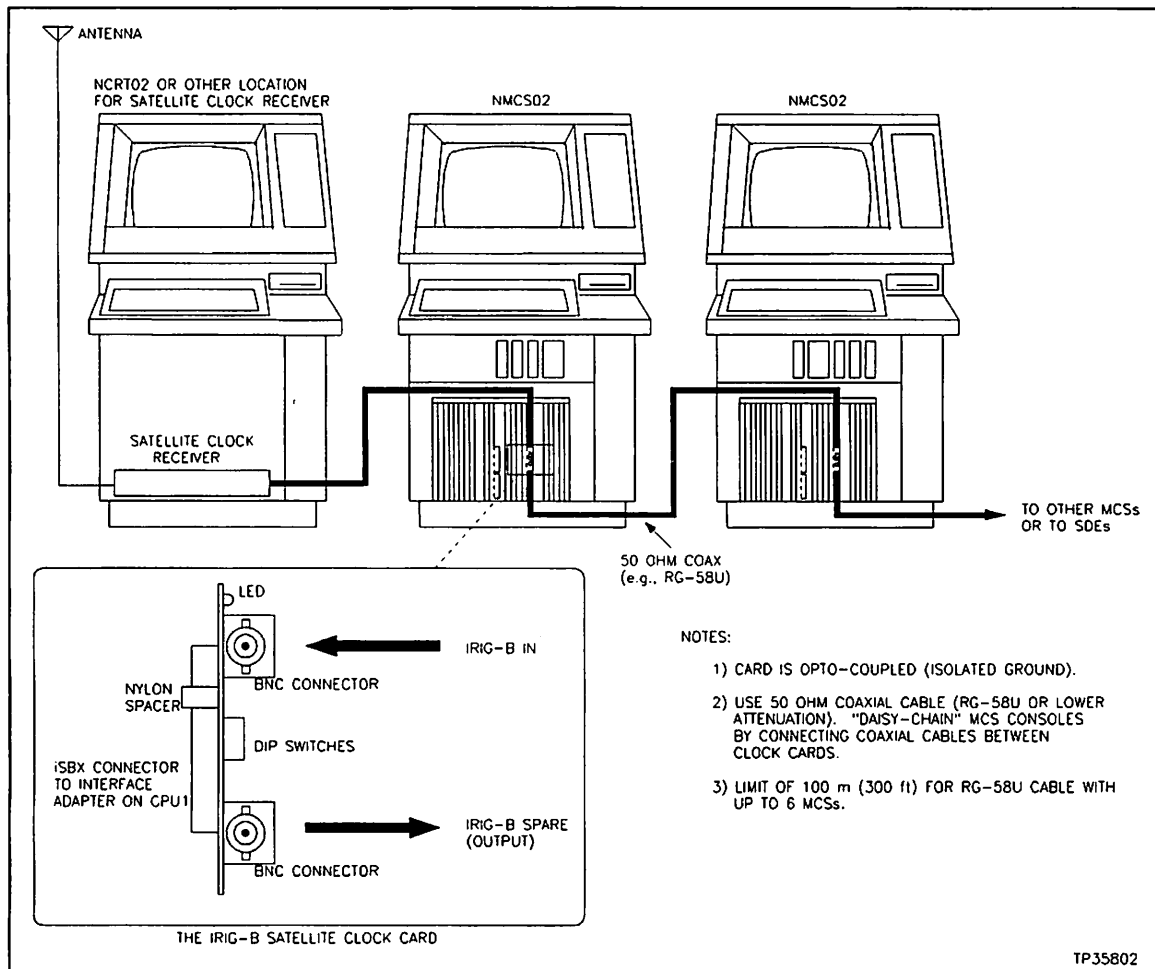

Figure 4-40. Daisy Chained IRIG-B Signal
10. Connect the clock cards. The clock card has two connectors on it (see Figure 4-40). The top connector is the IRIG-B